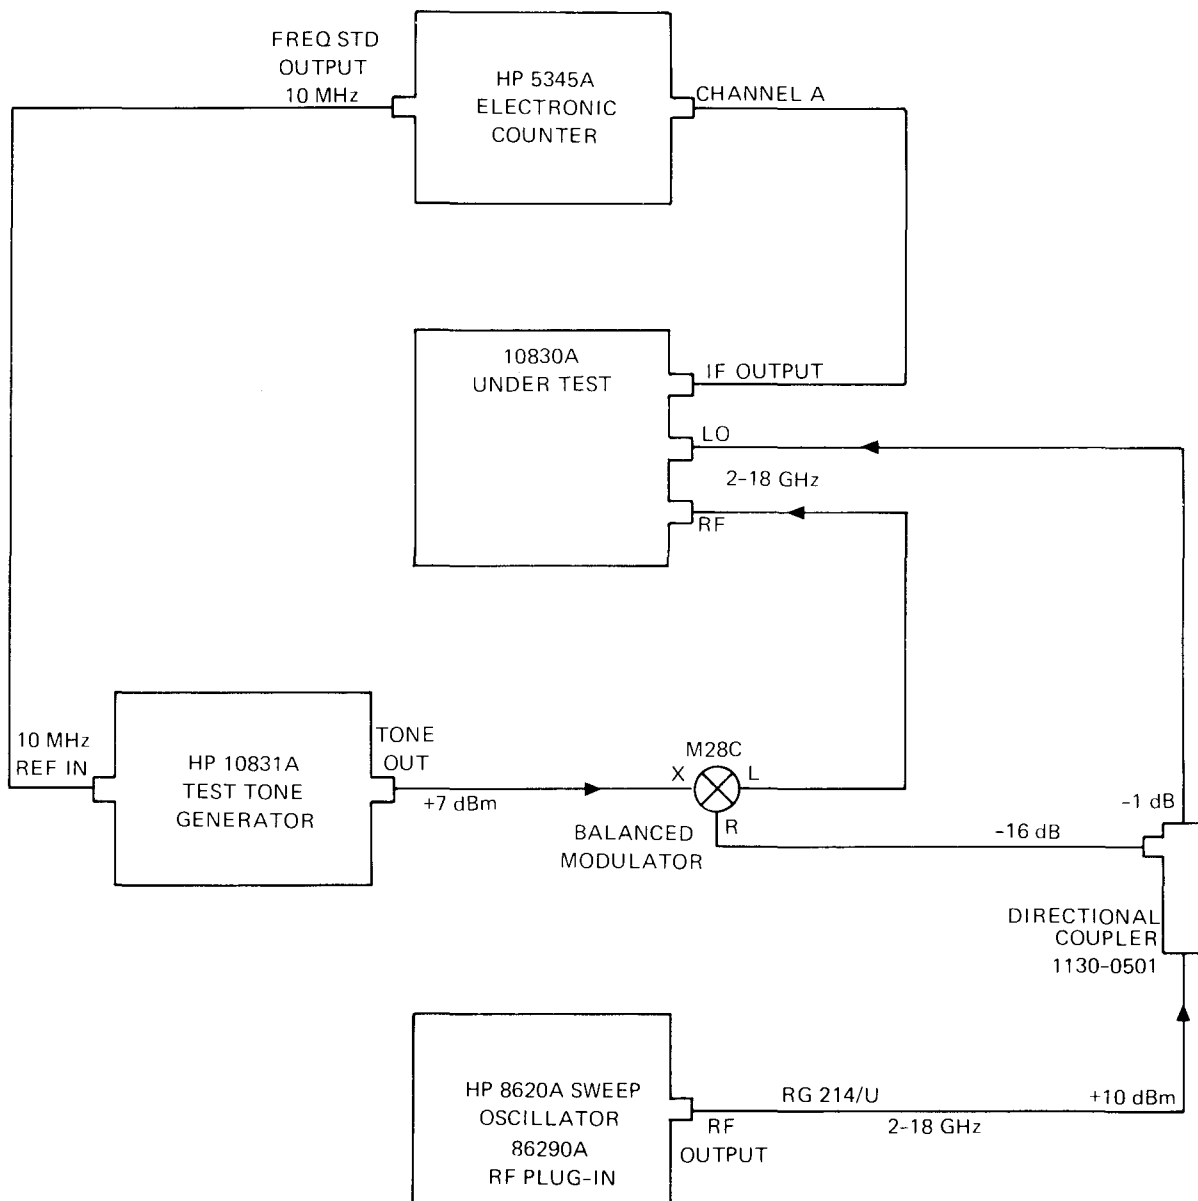

Figure 4-3. Microwave Band Test Setup
4-16. Refer to the test setup in *Figure 4-3* and proceed as follows:
- c. Connect the 10830A in the test setup shown in *Figure 4-3*.
- (1) IF BANDWIDTH Hz switch to 25K
- (2) INPUT switch to 2-18 GHz
- (3) EXT/INT switch to INT